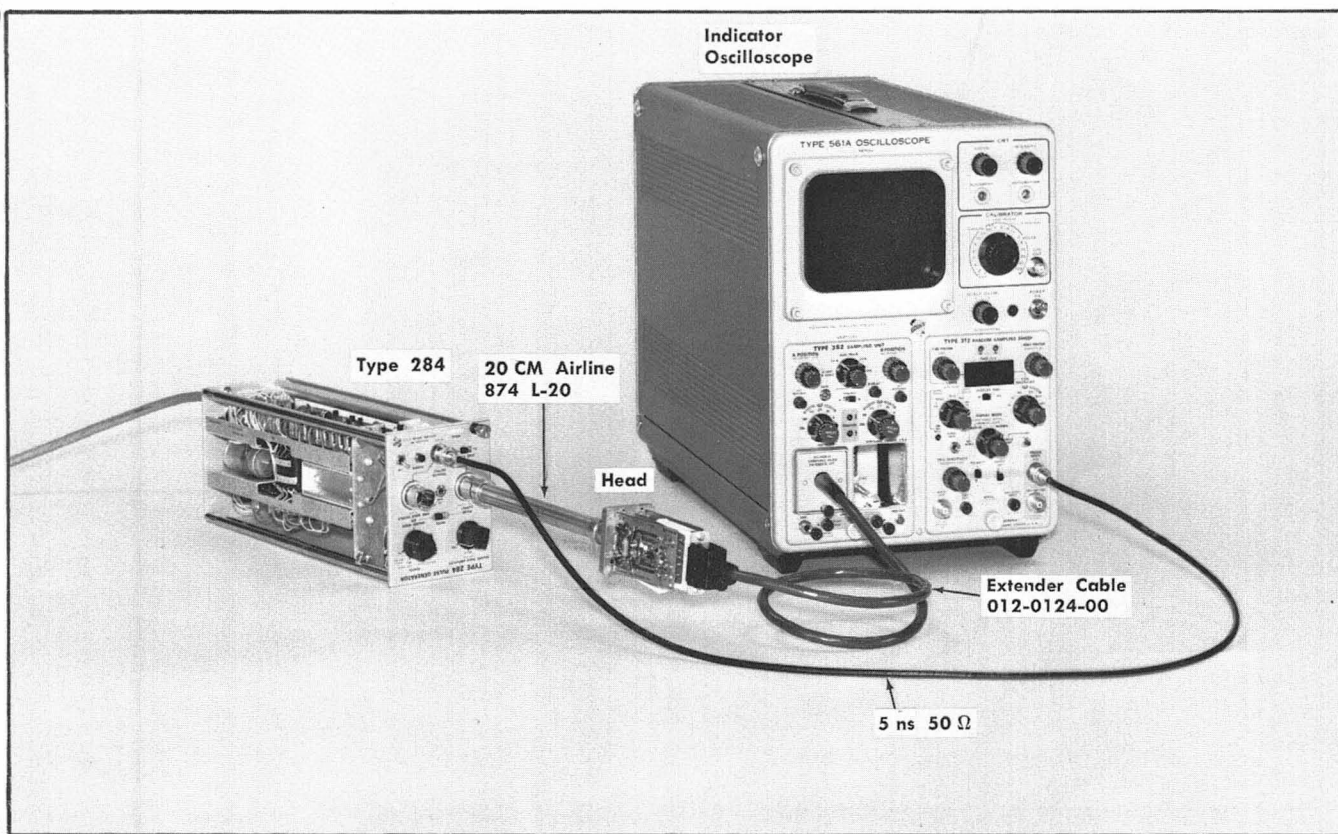
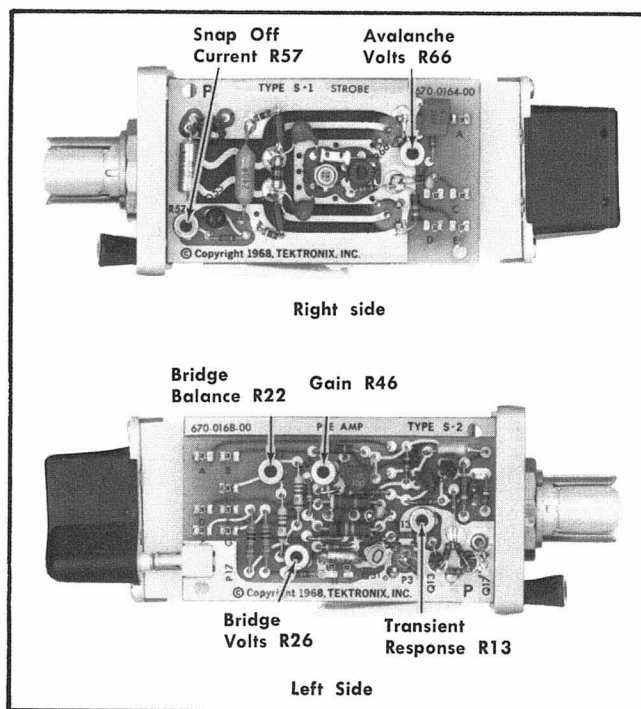

Fig. 5-4. Risetime check test equipment set-up.
Fig. 5-7. Sampling head control locations.
a. Connect the equipment shown in Fig. 5-4. The extender cable is recommended, although not required. The cable permits easy access to the Type 284 TD Bias screwdriver control which is adjusted as part of this step.
Connections in Fig. 5-4 are:
b. Remove the sampling head cover. The head must be on an extender cable for access to all controls. Make the connections shown in Fig. 5-4. Set the controls as in Step 3. Preset the sampling head internal controls (see Fig. 5-7).